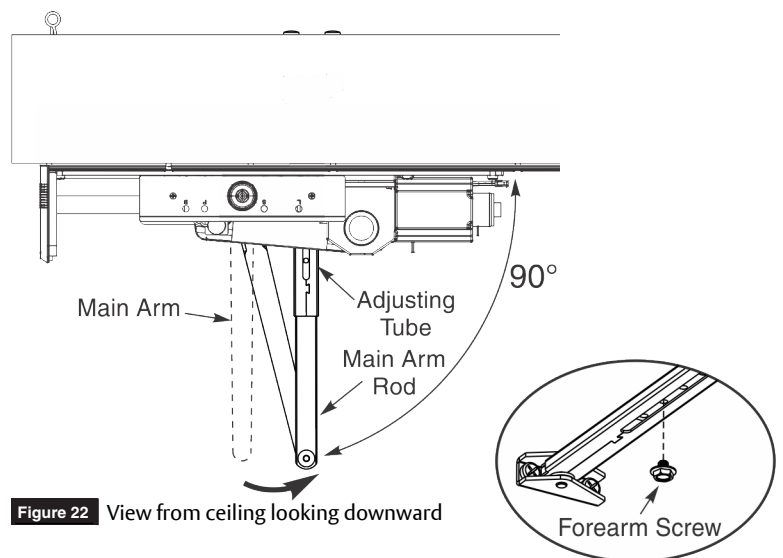

Figure 22 View from ceiling looking downward
- With door closed, rotate main arm away from hinge until adjusting tube is perpendicular (90 degrees) with door. (Figure 22)